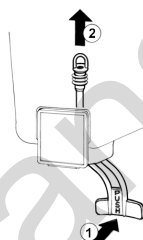

figure 3
- 5 **Pinch tube faucet:** push the dispensing handle (1) and take the pinch tube off from its seat (2) (see figure 3).